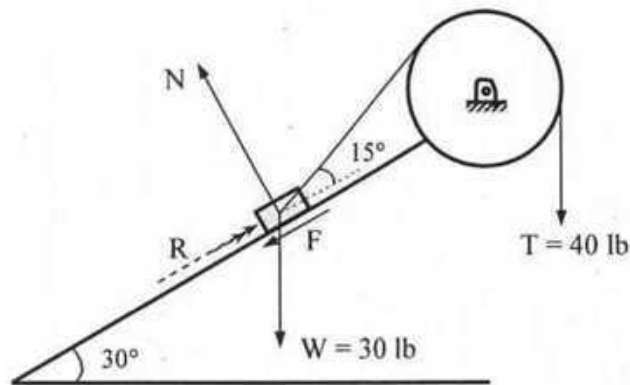

Fig: 13
14. In the fig: 13 shown below, the frictional force $F = (0.15)(N)$. If R is the resultant of W, T, N and F, calculate the magnitudes of N, F and R.